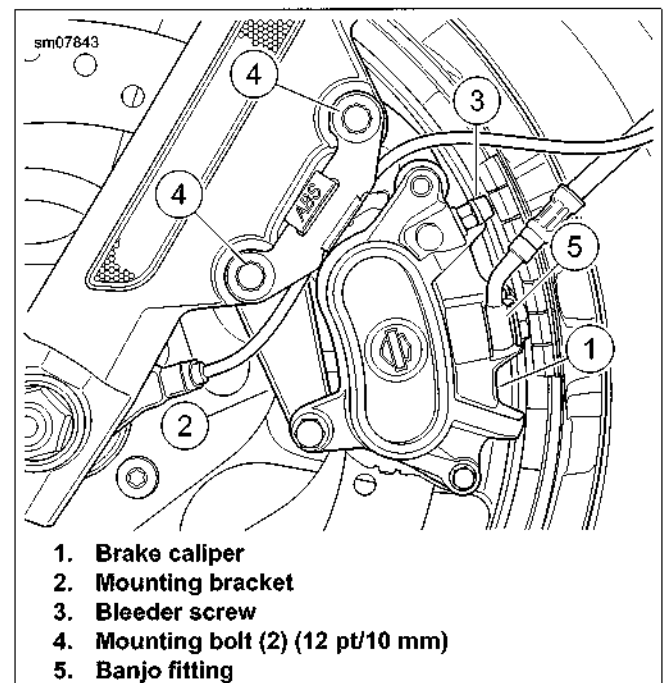

Figure 2-64. Front Caliper Assembly
1. See Figure 2-64. Place brake caliper (1) with mounting bracket (2) over brake disc with bleeder screw (3) facing upwards.